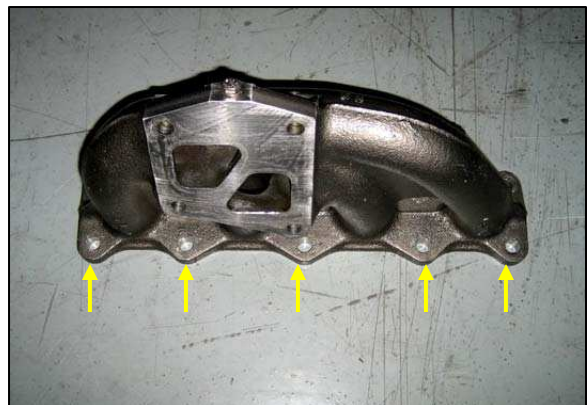

Fig. 24
27. Remove 10 nuts and washers securing exhaust manifold to cylinder head (5 on top and 5 on underside). Wrench from top side will reach all nuts. Pull the manifold towards the rear of the vehicle, off of its studs and pull it up out of the engine compartment. Inspect the exhaust manifold gasket. Replace the gasket if any signs of leakage are present. The manifold, nuts and washers will be reused (10 nuts, 14mm socket). Underside of manifold is shown off of vehicle for clarity in *Fig. 24*.